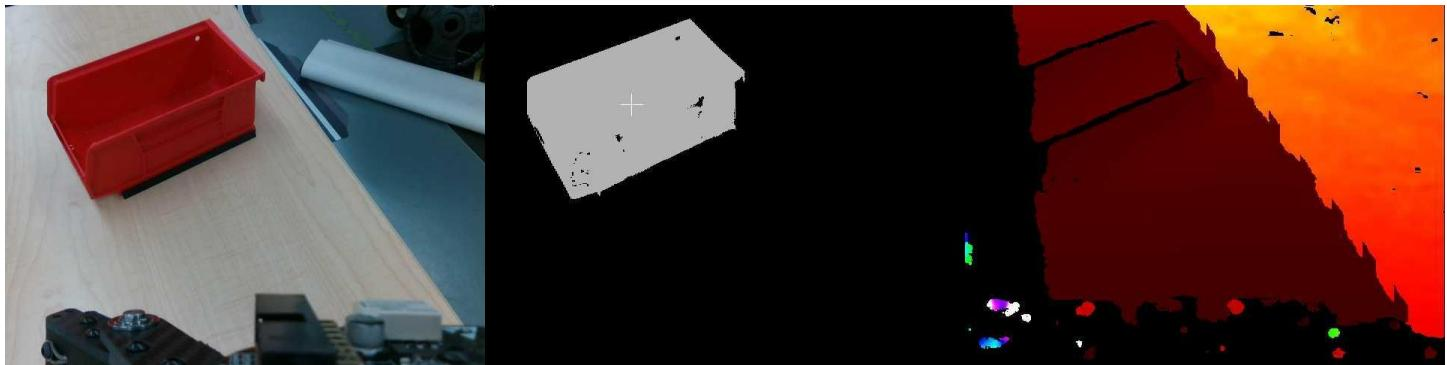

Figure 3: Example for successfully tracking a red object
**Note:** Do not continue beyond this point if the object tracking performance does not look like Figure 3.